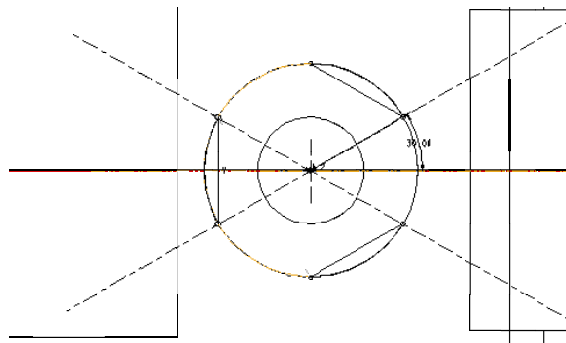

Figure 11: Sketch of the nut retaining protrusion, showing the use of centrelines.
- Using centrelines set at 30° sketch the three inserts, as shown in Figure 11. Use the **arc** and **line** commands to generate the general shape. If an error of unclosed section(s) is given on selecting **Done/Tick** use **Edit** → **Trim** (or icon entry) to join/trim the straight and arc lines.